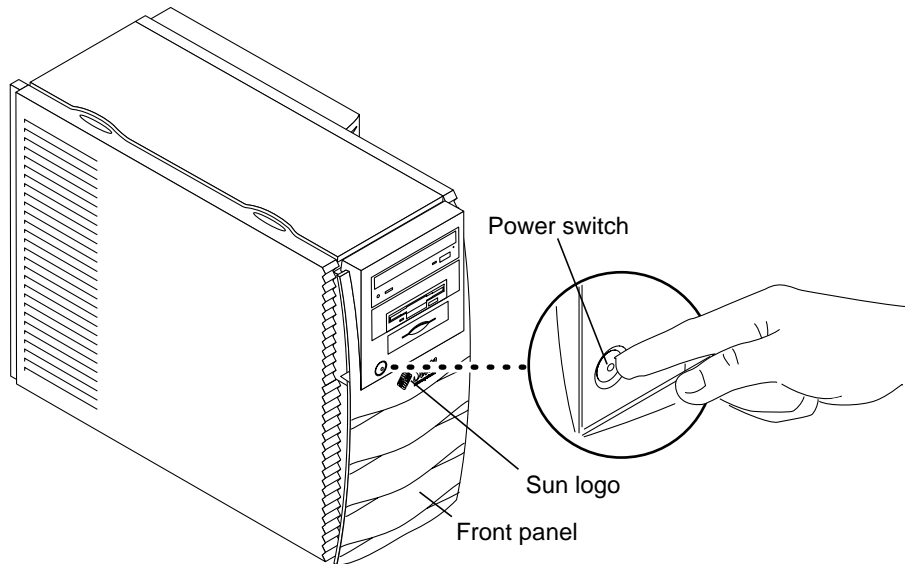

FIGURE 2 Workstation Power Switch
- i. **Press and release the front panel power switch (see FIGURE 2) to automatically shut down all programs and the operating system, and to power off the workstation.**
i. Press the front panel power switch (see FIGURE 2) to power off the workstation.
c. If the system is at the `ok` prompt (OpenBoot interface), press and hold the front panel power switch for four seconds (see FIGURE 2) to power off the workstation.